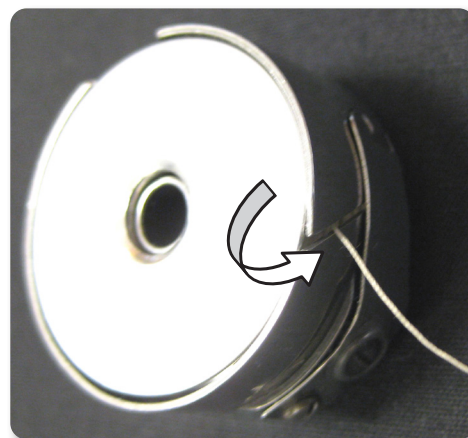

Figure 18
2. Slide the thread through the slot (Figure 18) and under the tension spring leaving 5 to 6 inches of thread hanging loose (Figure 19).